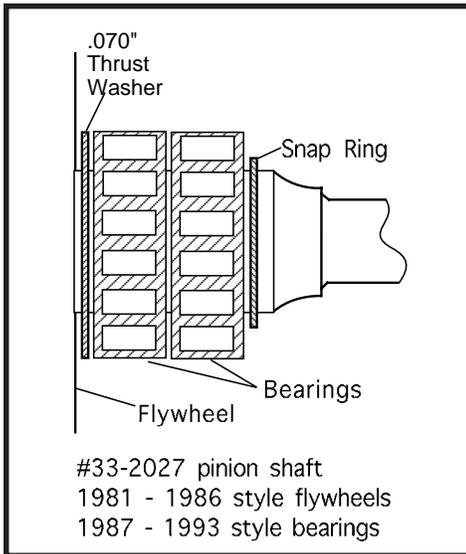

Figure 5
2. 1981 to 1986 style stock flywheels and S&S pinion shaft #33-2027 - Extra .070" main bearing thrust washer supplied in kit is normally used. Typical washer and bearing arrangement - .070" washer against flywheel, bearings, and snap ring. **See Figure 5.**